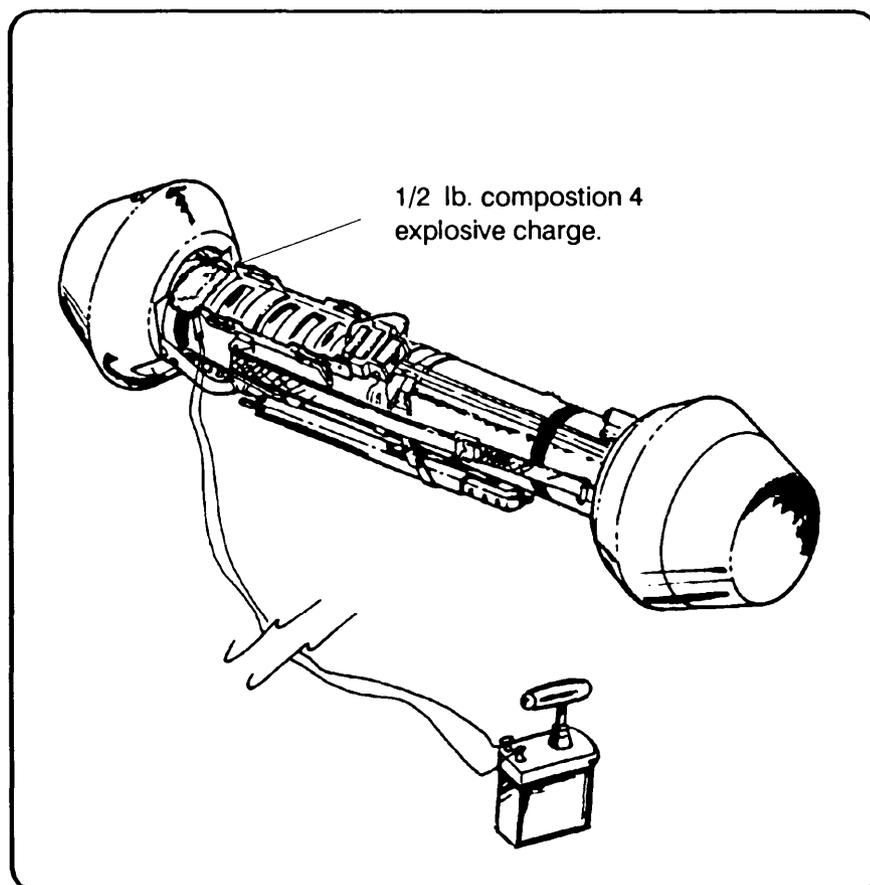

Figure D-1. Explosive charge on a round.
b. **Explosives.** The use of explosives not only destroys the missile, but also the launcher. One-half pound of explosive placed on the round close to the warhead should destroy the round (Figure D-1).
(1) Determine whether electrical blasting caps and wire, or nonelectric blasting caps and safety fuses can be used for priming and detonating the explosive charges. If nonelectric caps are used, they must be crimped to at least a 2-meter length of safety fuse.
(2) Connect the charges with detonating cord to produce a